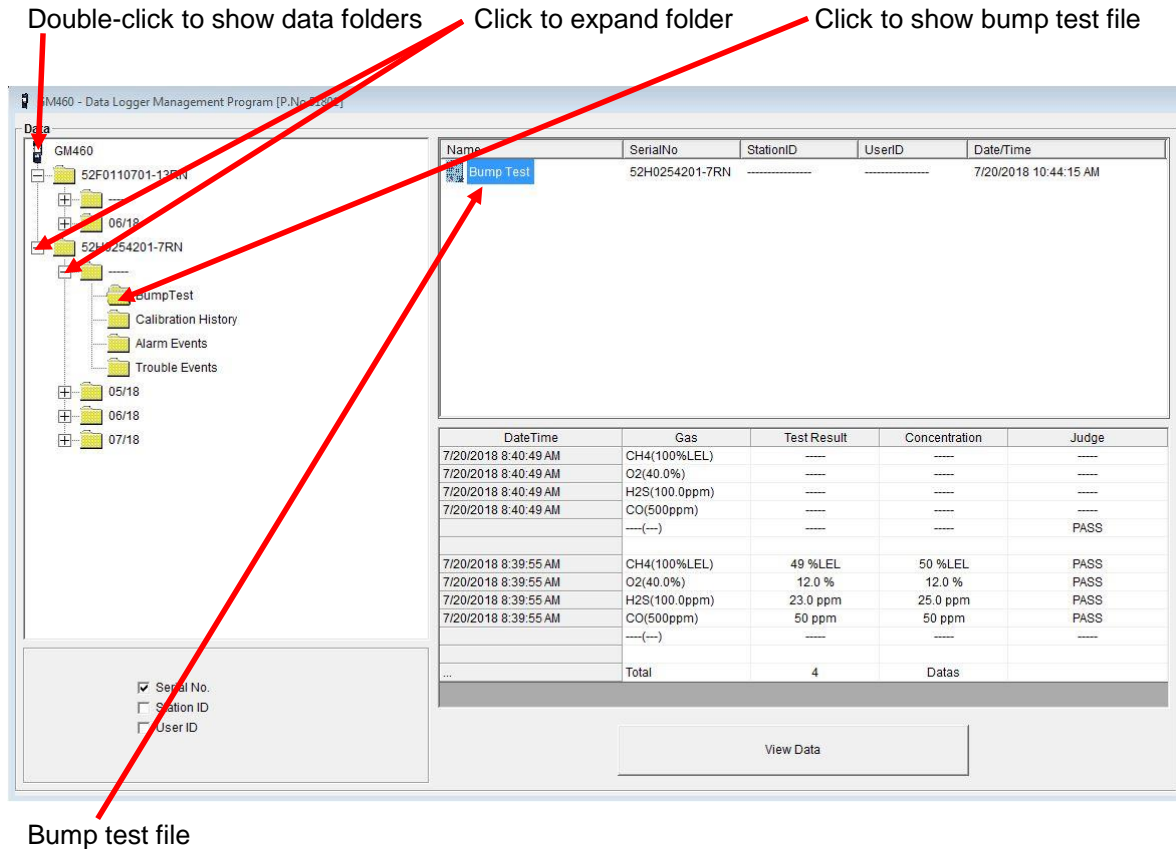

Figure 18: Data Window – Selecting Bump Test Files
1. With the program already launched, click the **Data** control button along the right side of the program window. The Data Window will appear (see Figure 18).